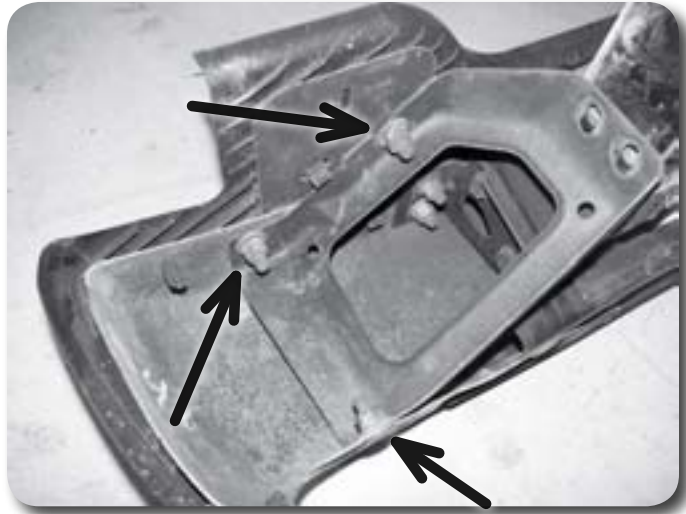

Figure 39
91. Remove the three nuts mounting each of the outer bumper support brackets to the bumper **Figure 39**. Remove the supports and save along with the nuts.